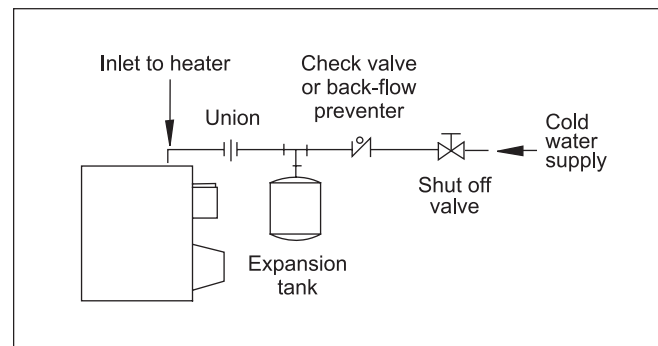

Figure 10. Expansion Tank Installation.
2. If a backflow preventer, pressure reducing valve, or check valve is included in the cold water supply line, you must provide a way to control thermal expansion of the water in the tank. This will prevent the temperature and pressure relief valve from being forced open repeatedly. For advice on controlling this situation, contact the water supplier or local plumbing inspector. Install an expansion tank of the proper size, as shown in Figure 10.